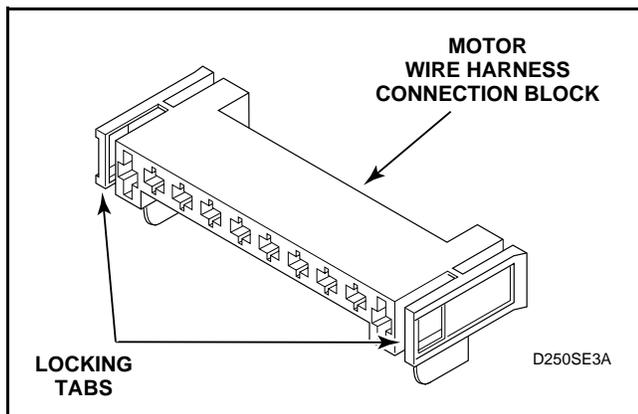

Figure 23
- (1.) Disengage motor wire harness terminal block from the motor by pressing in on the movable locking tabs (located on each side of the terminal block) and pulling away from motor. See *Figures 23* and *24*.